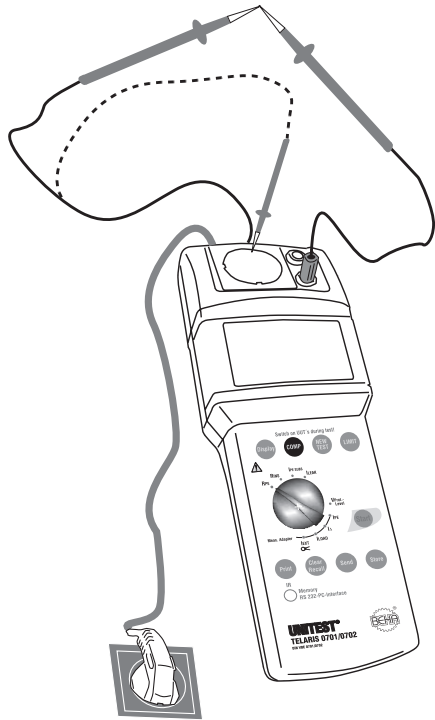

Figure 6.4: Compensation of the test lead resistance
- ▶ Connect the PE test connection 'Probe' (2) or the blue 'PE' socket (5) to the additional test lead and test accessories.
- ▶ Short-circuit the connected test leads in compliance with Figure 6.4, or connect the probe (2) to the PE of the test socket (3) in compliance with Figure 6.4. Ensure a good contact.
- ▶ Turn the 'Measurement function' selection switch (15) to position 'RPE'.
- ▶ Press the key "COMP" (16).
- ▶ Now, the measurement is started. The resistance of the test lead is measured and compensated. The "COMP" symbol (27) is displayed on the LCD. 0,00 is displayed and a signal is audible.
- ☞ To delete the compensation value, press again the key "COMP" (16). The 'COMP' symbol is no longer displayed on the screen.